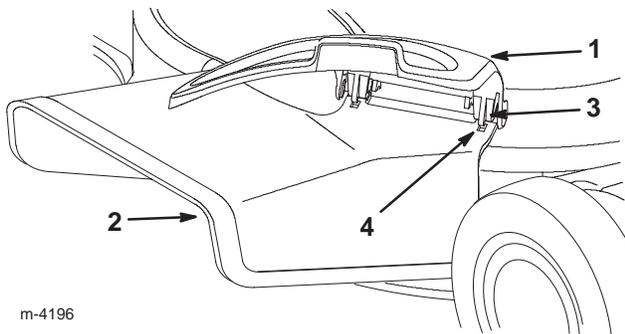

Figure 38
6. Slide the chute over the opening with the slots in the chute lined up with the tabs under the cover (Fig. 38).
3. Open the side opening cover and remove the side discharge chute (Fig. 38).